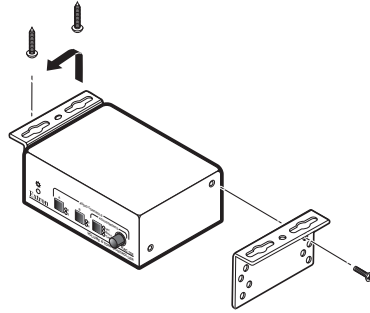

Figure 17. Mounting the RAC 104 Under Furniture
Furniture mount the RAC 104 using the optional mounting kit as follows (see figure 17 on the next page):
6. Align the mounting screws with the slots in the brackets and place the RAC 104 against the surface, with the screws through the bracket slots (see figure 17 on the next page).